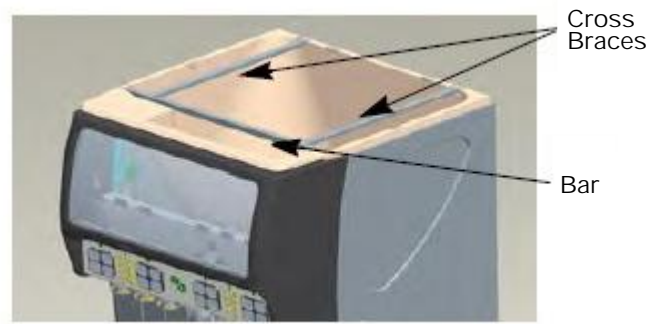

Figure 1
2. Place ice maker rail supports into the pockets in the ice bin as shown in Figure 1.